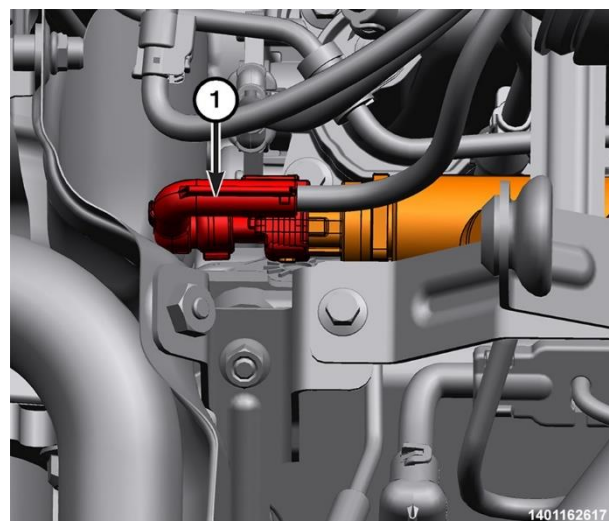

Figure 129 – Fuel Pressure Sensor
67. Disconnect the fuel pressure sensor harness connector (1) on the RIGHT rail (Figure 129).